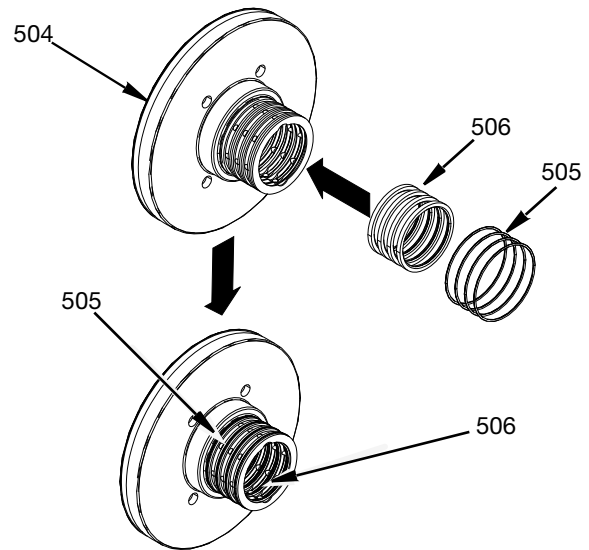

FIG. 24
6. Install the O-rings (505) and air seals (506) onto the air distribution ring bearing (504). See FIG. 24.